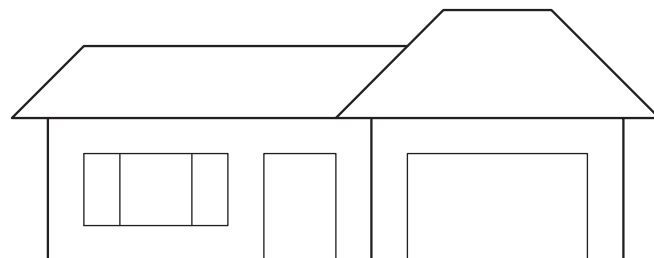

Fig. 11-11
8. With **UNDO Back**, return to the point prior to drawing the roof. Draw the roof shown in Fig. 11-11 in place of the old roof. Use the **UNDO** command as necessary as you complete the drawing.